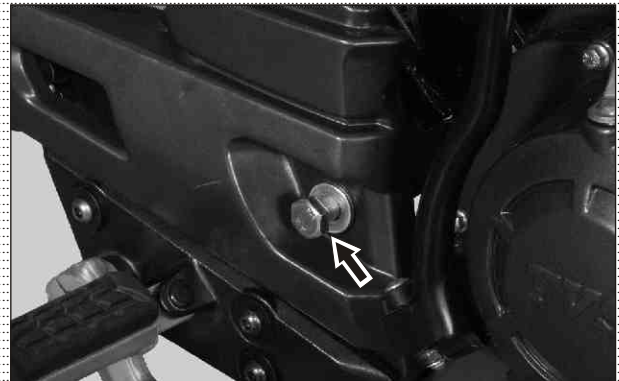

Fig. 6.112
- Draw out shaft complete swing arm along with punched washer by gently tapping at the other side. (Fig. 6.112)